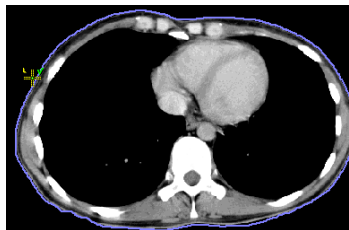

Figure 196 – Defining the left point of bolus
- Define leftmost point of bolus clicking on the contour. The mouse cursor marked as **L** will also be displayed with a green tick when it reaches the contour line of the currently selected ROI (see Figure 196).